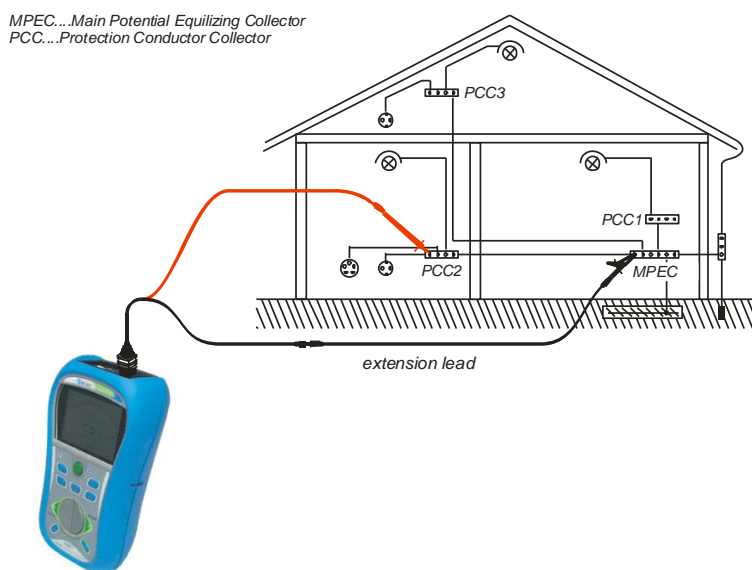

Figure 5.12: Connection of 2-wire test lead plus optional extension lead
- ❑ **Connect** the test leads to the appropriate PE wiring (see *Figure 5.12*).